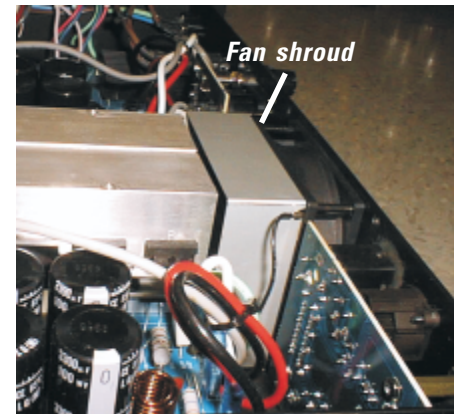

Figure 2. Removing the fan shroud makes it easier to remove the channel module boards on the RMX 850 and RMX 1450
6. On the rear panel, loosen the four screws on the fan enough to allow you to remove the fan shroud (Figure 2). Lift the shroud straight up to remove.